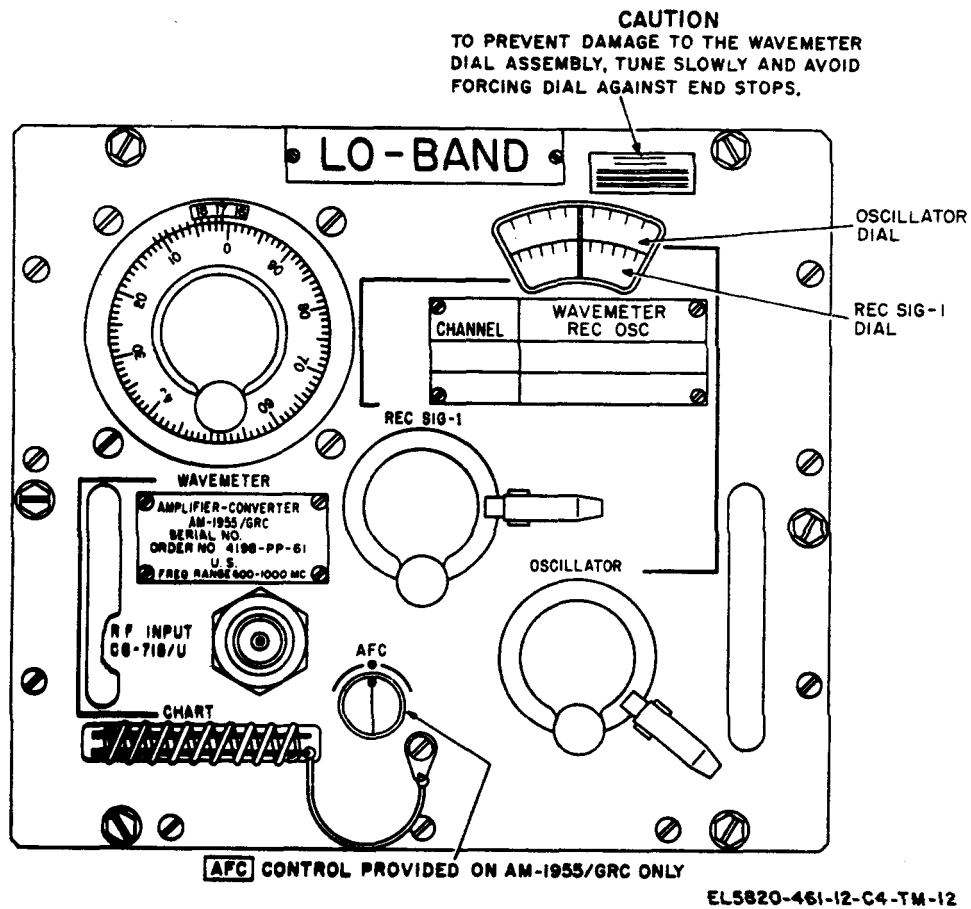

Figure 3-7. Amplifier-Converter AM-1955(*)/GRC,
c. *Amplifier-Converter AM-1955(*)/GRC and Amplifier-Converter AM-1956(*)/GRC (fig. 3-7).* The operating controls and indicators listed in the following chart are common to the AM-1955(*)/GRC and AM-1956(*)/GRC, except where indicated. The AM-1955/GRC is plugged into R-1148(P)/GRC and the AM-1955A/GRC into the R-1331(*) (P)/GRC when the low-band frequencies are to be received, and the AM-1956/GRC is plugged into the R-1148(P)/GRC and the AM-1955A/GRC into the R-1331(*) (P)/GRC when the high-band frequencies are to be received. With the exception of the nameplate and AFC control on the front panel, the AM-1956/GRC is functionally